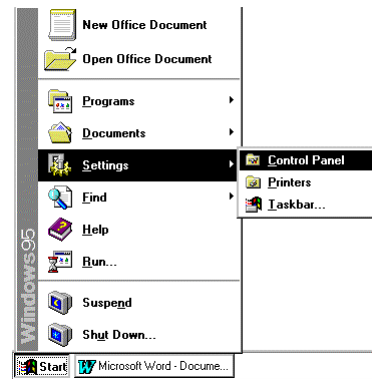

Figure 2, Accessing Control Panel
2. Select Settings, then Control Panel (see Figure 2)